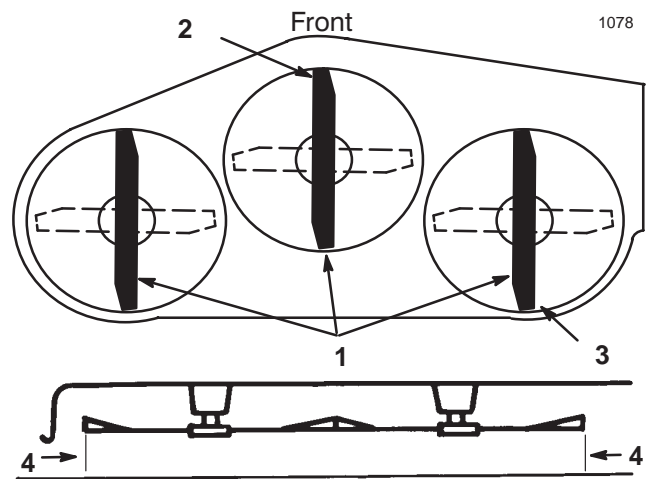

Figure 41
7. Set the height-of-cut at 3 inch (76 mm) and carefully rotate the blades so they are facing front to rear (Fig. 41).
8. Measure between the tip of the front blade (Fig. 41) and the tip of the rear blade to the flat surface. If the front blade tip is not 1/16–5/16 inch (1.6–7.9 mm) lower than the rear blade tip, adjust the front trunion rods.
11. After adjusting both trunion rod yokes evenly, secure the yokes with the hairpin coppers. Check the front-to-rear level again. Continue adjusting the yokes until the front blade tip is 1/16–5/16 inch (1.6–7.9 mm) lower than the rear blade tip (Fig. 41).